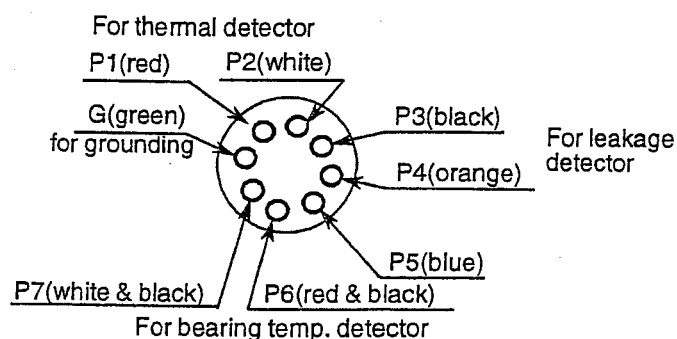

Fig. 6.4
(3) Protective device cable connection (Fig. 6.4 and Table 6.2)
This pump has a leakage detector at the motor bottom, a thermal protector in the stator coil and a bearing temperature detector (RTD) in the thrust bearing bracket to protect the motor, with cable connections as illustrated in Fig. 6.4. Connect terminals P1 and P2 for the thermal detector to P1 and P2 of the control connector, and P3 and P4 for the leakage detector to P3 and P4, and terminals P5, P6 and P7 for the bearing temperature detector to P5, P6 and P7 of the same connector. Connect the remaining terminal G to ground. Table 6.2 shows detailed specifications regarding protective devices.